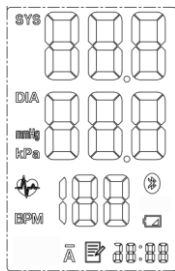

Fig 10
- 2) Turn on the on/off button; display will lit-up for 1 second as shown on fig 10